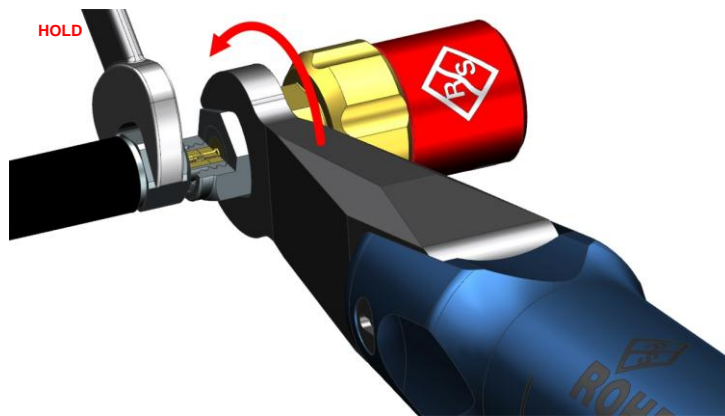

Figure 16 – Applying the correct torque to the connection.
4. Once firmly coupled, the nut should be torqued to prescribed limits using a calibrated torque wrench, while holding the opposite part of the connector stationary with a spanner (Figure 16).